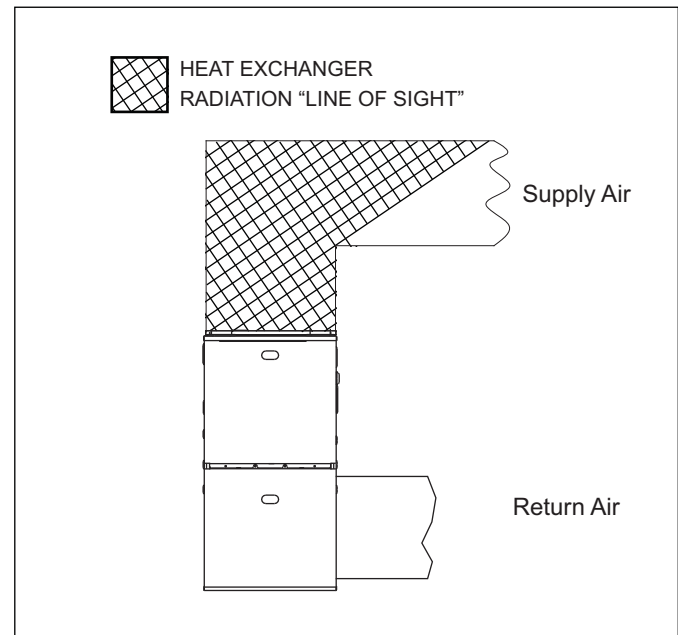

Figure 38 Temperature rise measurement
2. Place thermometers in the return and supply ducts as close to the furnace as possible. Thermometers must not be influenced by radiant heat by being able to "see" the primary heat exchanger (see Fig. 38).